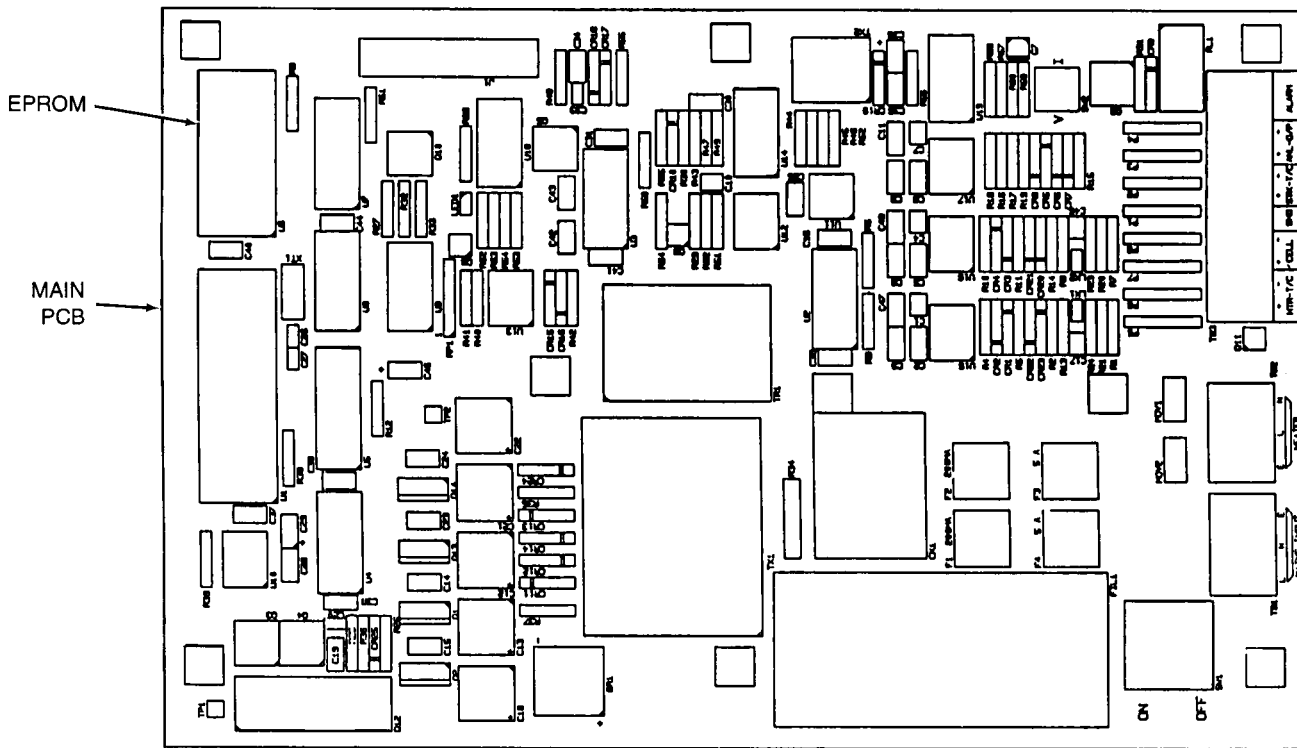

Figure 3-4. Main PCB (Model 132) EPROM Replacement
- c. On the Main PCB, Figure 3-4, locate and remove old EPROM.